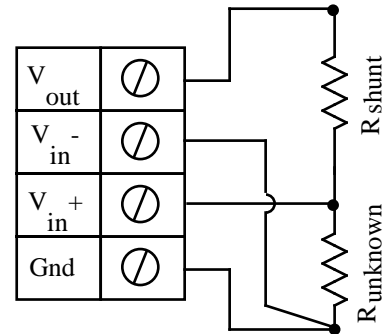

Fig 3.4 - Resistance Measurement
6. Wire your voltage source per figure 3.4, and refer to the steps at the beginning of this chapter for more information on how to set up your sensor.¹⁰